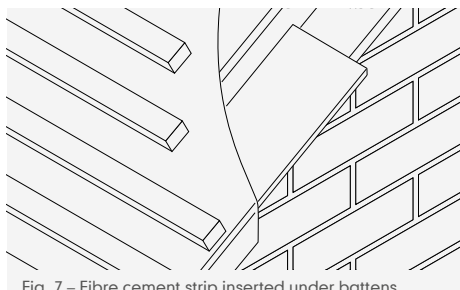

Fig. 7 - Fibre cement strip inserted under battens,
- 3 Where cloak verge tiles are laid to maximum 50mm overhang, it is recommended that a strip of fibre cement board is fitted between tiling battens and wall or bargeboard to prevent ingress of birds (Fig. 7).